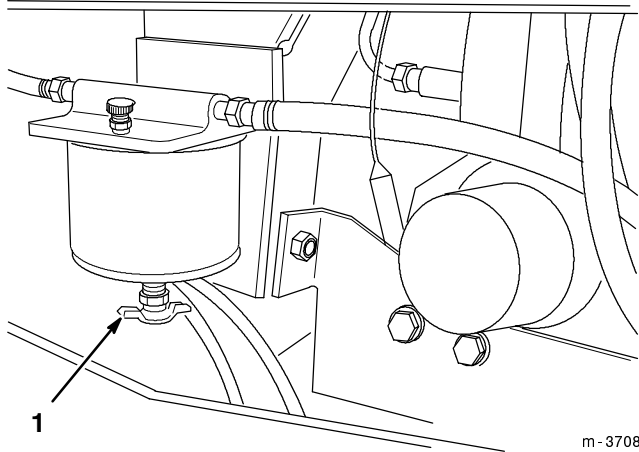

Figure 4
4. Open the drain valve on the fuel filter/water separator and drain any accumulated water (Fig. 4).